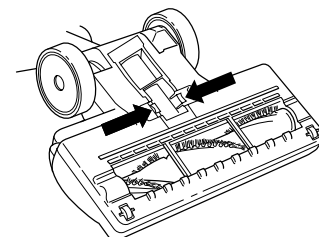
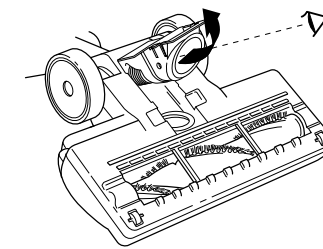

Fig. 28
Fig. 29
- Turn motorized floor nozzle over and detach the hose by squeezing the tabs together and pulling it out. Straighten out the hose and inspect it for any blockages. **(Fig. 28, Fig. 29)**